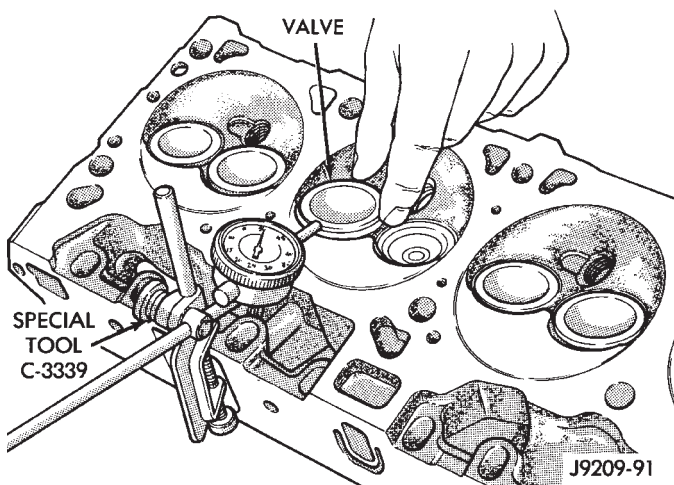

Fig. 57 Measuring Valve Guide Wear
(3) Attach Dial Indicator Tool C-3339 to cylinder head and set it at right angle of valve stem being measured (Fig. 57).